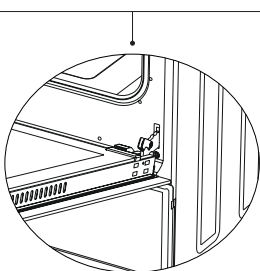

Figure 20.2
2. Bring the hinge lock to the widest angle as shown in figure 20.2. Bring both hinges connecting the oven door to the oven to the same position.